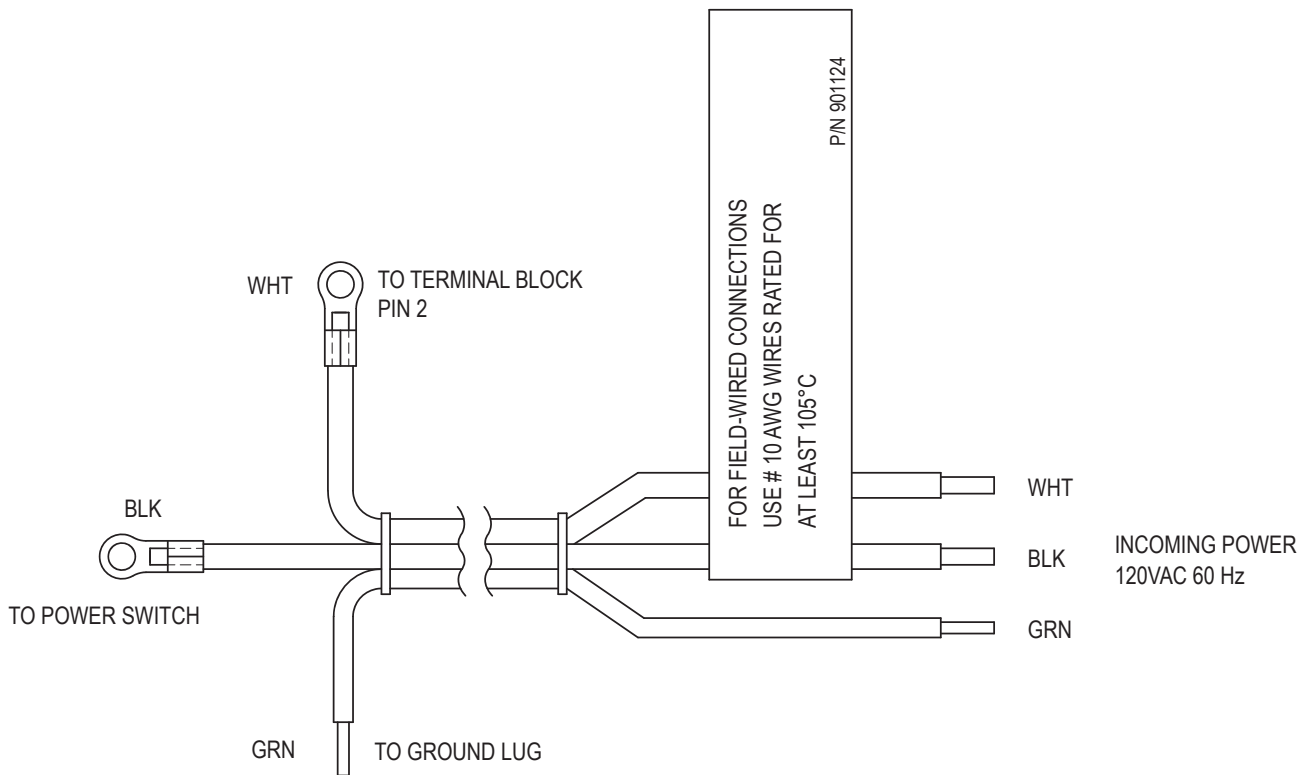

Figure 19. Harness 8, Models 2100-4001
8. Inside the J-box, HARNESS 8 connects incoming power to the 14-space terminal block per **Figure 19**.